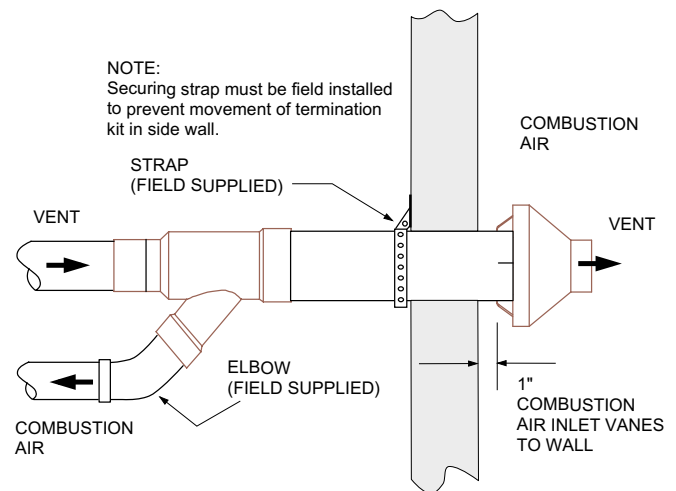

FIGURE 7 - SIDEWALL TERMINATION DETAILS FOR CONCENTRIC VENT
9. Secure assembly to structure as shown in Figure 7 using field supplied metal strapping or equivalent support material
NOTE: If assembly needs to be extended to allow side wall thickness requirement, the 2 pipes supplied in the kit may be replaced by using same diameter, field supplied SDR-26 PVC (D2241) pipe. Do not use Schedule 40 PVC or couplings to extend pipes. The additional wall thickness will restrict combustion air and may cause operational problems. Do not extend air inlet pipe more than 60 inches (Refer to Figure 7).
10. Cement furnace combustion air and vent pipes to concentric vent termination assembly. Refer to Figure 7 for proper pipe attachment.